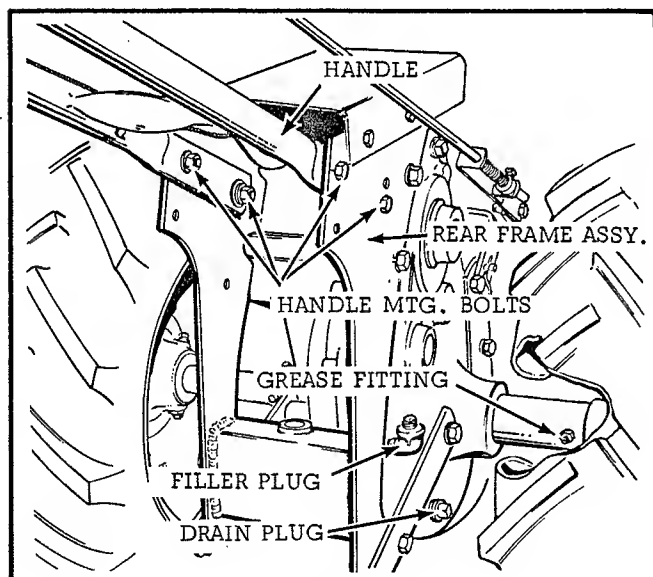

Fig. 1
1. The tractor handles attach to the rear frame assembly of the tractor as shown in figure 1. Place the tractor handles inside of the rear frame assembly, line up the holes in the tractor frame with the holes in the handle assembly and insert hex head capscrews. The two front capscrews are held in place with a flat washer, lockwasher, and hex nut. The rear capscrews are held in place with a lockwasher and hex nut. NOTE: the end holes of the handle assembly are slotted to allow for adjustment of handle height.
The transmission has a capacity of 2 1/2 quarts of SAE 90 oil, and is filled at the factory. It will not normally require replenishment, but occasionally check the drain plug for tightness and axle seals for leakage. Keep oil up to level of filler plug. Remove vent plug from top of transmission and allow oil to settle to normal level before checking. See figure 1.
The right hand axle tube has 1 grease fitting which should receive general purpose automotive type grease periodically. Use a standard grease gun and be sure to clean the grease fitting before applying grease. See figure 1.